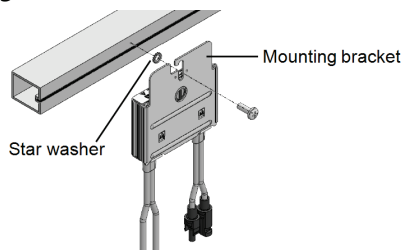

Figure 4: Power optimizer installation and grounding using a star washer
1. Determine the power optimizer mounting location and use the power optimizer mounting brackets to attach the power optimizer to the support structure (See *Figure 4*). It is recommended to mount the power optimizer in a location protected from direct sunlight. For frame-mounted power optimizers follow the instructions supplied with the optimizers, or refer to https://www.solaredge.com/sites/default/files/installing_frame_mounted_power_optimizers.pdf.
- **For mounting on a grounded metal rail:** Use the provided 5/16" stainless steel grounding star washer between the railing and the flat side of the mounting bracket. The grounding washer should break through the anodize coating of the railing to ensure low resistive connection. Apply torque of 9.5 N*m / 7 lb*ft. See Figure 4.